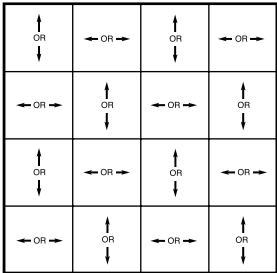
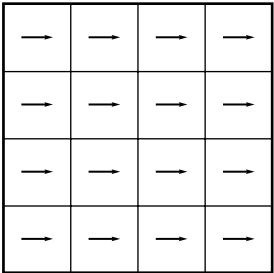
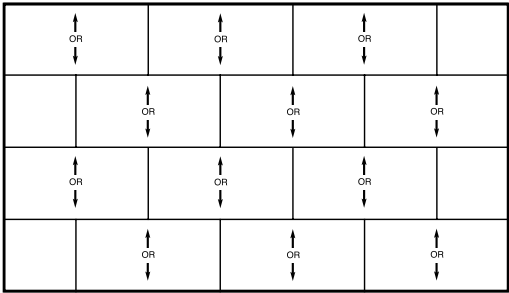

Fig. 1 - Turn tiles as shown.
Fig. 2 - Arrows in the same direction.
Fig. 3 - Install with arrows pointing in the opposite direction.
- For best visual results: For DuraCeramic the directional arrows printed on the back of the tile should be installed following the illustration in (Fig. 1), with tiles turned randomly, i.e. north, south, east and west. For Ovations, install with directional arrows pointing in the same direction as shown in (Fig. 2). For DuraCeramic Dimensions, install all tiles with arrows pointing in the opposite direction following the illustration in (Fig. 3).